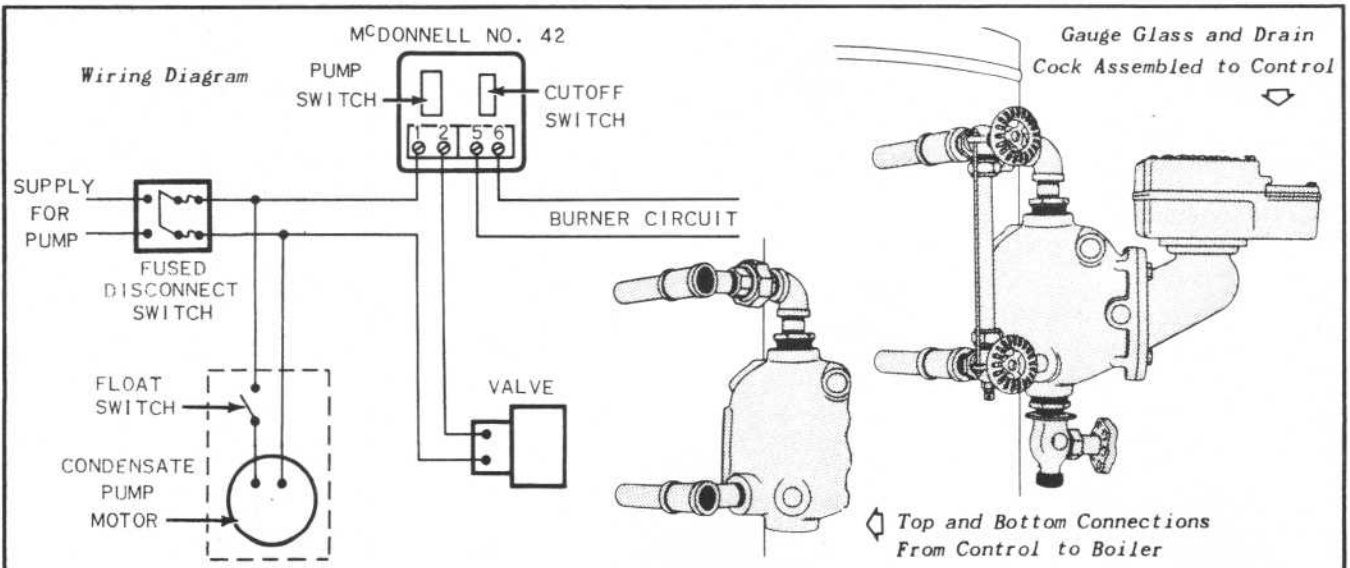

Figure 24 - Piping and Wiring For McDonnell-Miller No. 42 Low Water Cutoff
1. Thread 1/2" short nipple into side tapping near bottom of the float chamber. Screw the side outlet of 1/2" x 1/2" x 1/2" tee on the nipple and tighten. A 1/2" nipple approximately 11" long is then threaded into the tee, and the other end into the bottom 1/2" tapping on the side of boiler. The control should then be rotated until these fittings are tight. The length of the nipple between the tee and the boiler tapping may be varied in order to allow the controls to clear the boiler casing. (See Figure 24)
3. Install reducing bushing and drain cock into opening in bottom of float chamber. (See Figure 24)